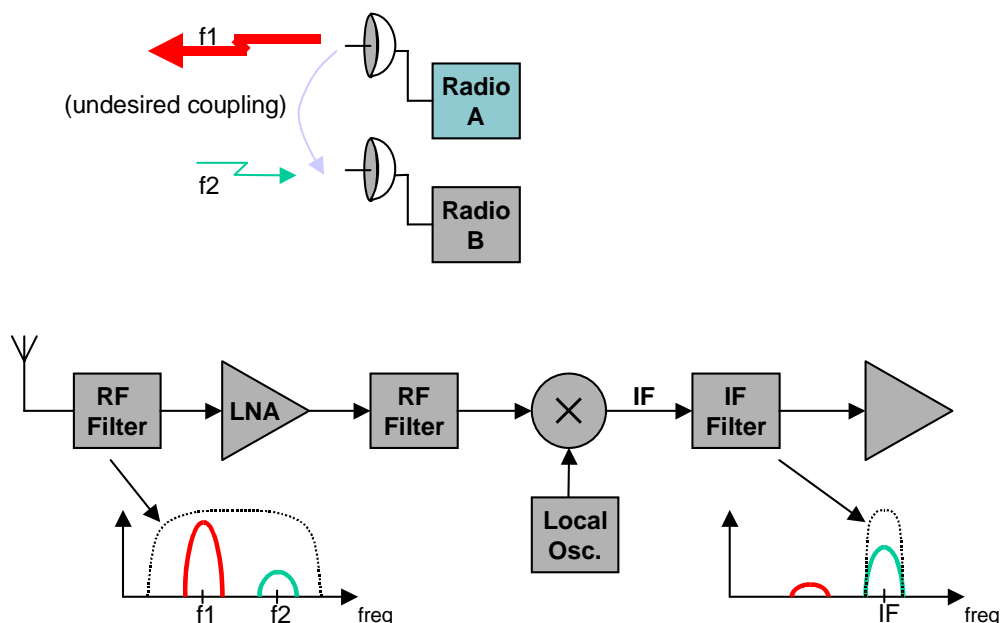

Figure 2.1– Co-located radio interference
The self-interference situation is illustrated in Figure 2.1, that shows radio A transmitting on channel f1 while a co-located radio is trying to receive on channel f2. Because the antennas are in close proximity, antenna B will pick up a significant portion of the signal transmitted by radio A.
Figure 2.1 also shows a block diagram of the radio front end circuitry. It includes an RF filter to reject out of band signals, followed by a Low Noise Amplifier (LNA), a second RF filter, Mixer and finally the Intermediate Frequency (IF) filter. Channel selection occurs at the Intermediate Frequency (IF), where the narrow band IF filter blocks out the other channels. This means that if the interferer (radio A) is in close proximity, and is transmitting while radio B is trying to receive, it may saturate the LNA or the Mixer of radio B. This results in radio B making errors even when it is set to a different channel than radio A.
When you co-locate multiple devices you must choose a fixed split and it must be the same for all the co-located radios. The radios will then synchronize their cycle periods so that all co-located radios transmit at the same time and then receive at the same time. This avoids the situation depicted in Figure 2.1 altogether. With a synchronized site you can then deploy upwards of 24 radios at the same location.